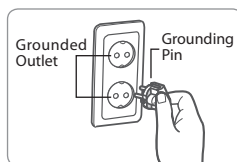

Figure 1
- When you are not sure about grounding or whether the product is properly grounded, consult with a qualified electrician or service technician. a grounding plug that looks like the plug illustrated in Figure 1.